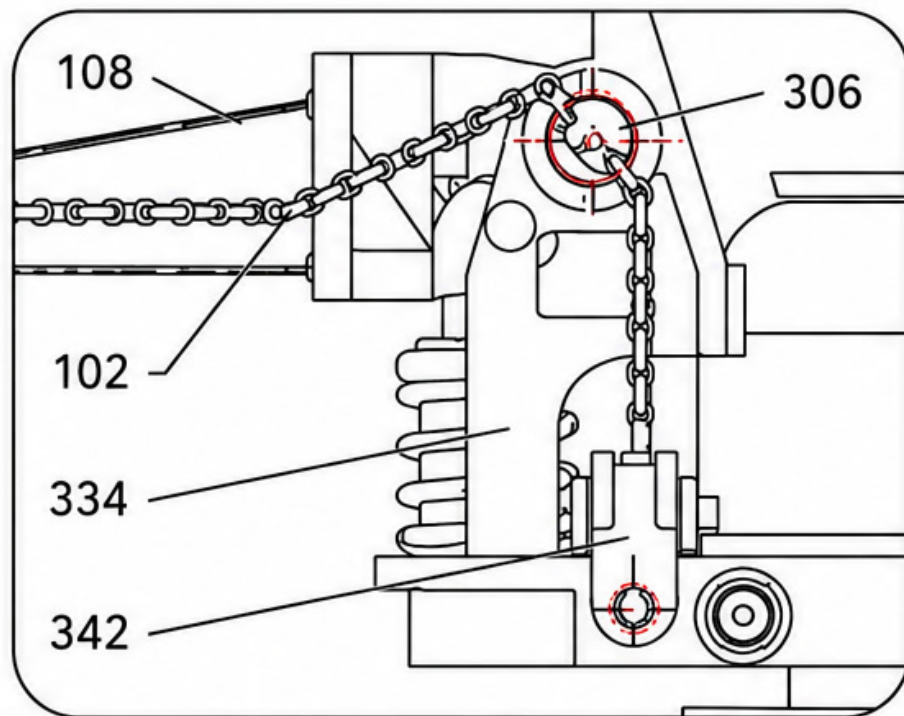

FIG. 2-1
- 1. Pass the chain (102) on the handle through the center hole of the locating pin (306). **(See Fig. 2-1.)**
- 2. Insert the bolt and nut at the end of the chain (102) into the slot of the control lever (342).
(See Figs. 2-1 and 2-2.)